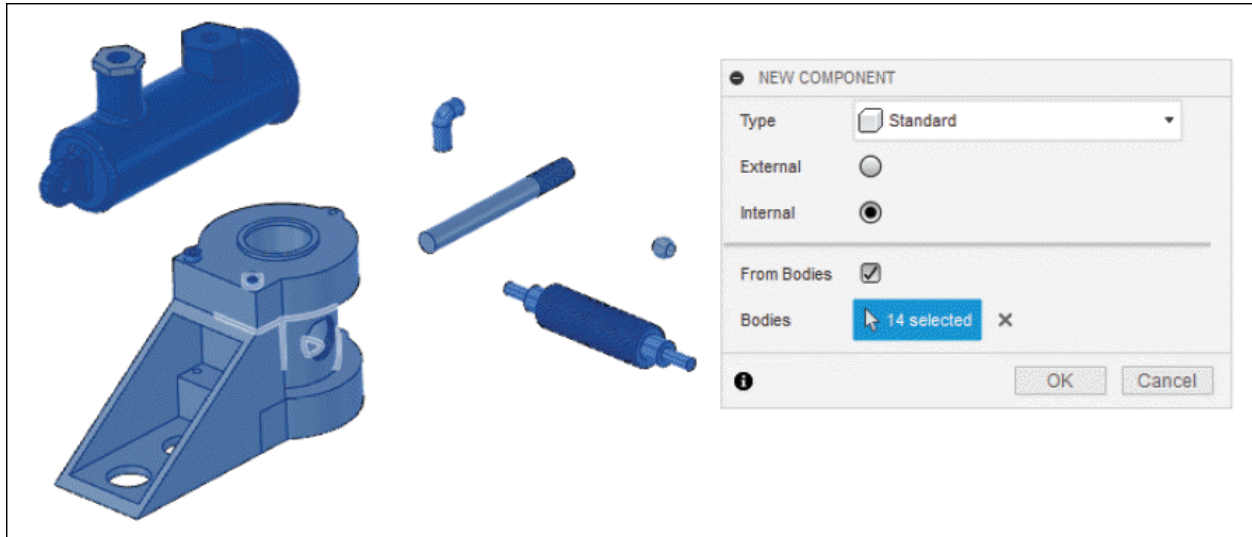

Figure-82. Selecting the bodies to create component
- The **Select** button of **Bodies** section is active by default. Select the bodies which you want to convert into components; refer to Figure-82.